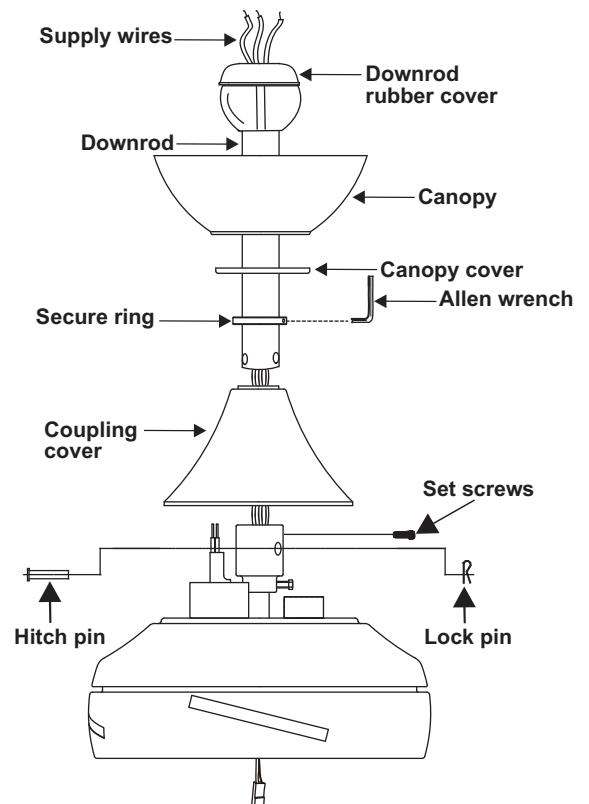

Figure 7
4. Loosen the two set screws and remove the hitch pin and lock pin from the central shaft/top coupling of the motor assembly. Doing so will allow the down rod to enter the central shaft. (Fig. 7)
5. Route wires exiting from the top of the fan motor through the coupling cover, secure ring, canopy cover and canopy and then through the ball/downrod. (Fig. 7)
6. Align the holes at the bottom of the downrod with the holes in the collar on top of the motor housing. Carefully insert the hitch pin through the holes in the collar and downrod. Insert the lock pin through the hole near the end of the hitch pin until it snaps into its locked position. (Fig. 7)